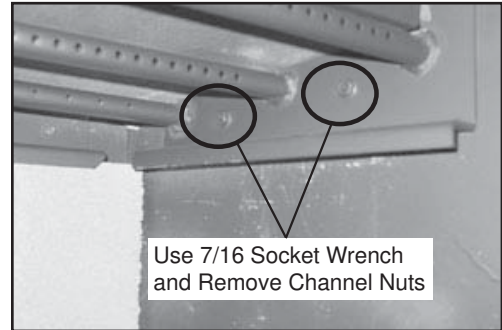

Figure 24.2
3. Locate the 2 channel nuts and two bolts inside of chamber and remove using a 7/16 socket wrench. **Figure 24.2.**